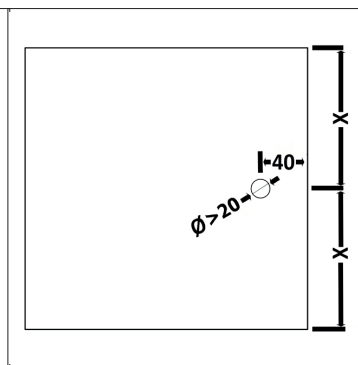

Fig. 3
- Mark the position of the drilling for the mains lead in the middle of the colour light, 40 mm away from the lateral edge (Fig. 3).
- Drill a hole ($\varnothing$ at least 20 mm) through the roof of the sauna or infrared cabin (Fig. 3).